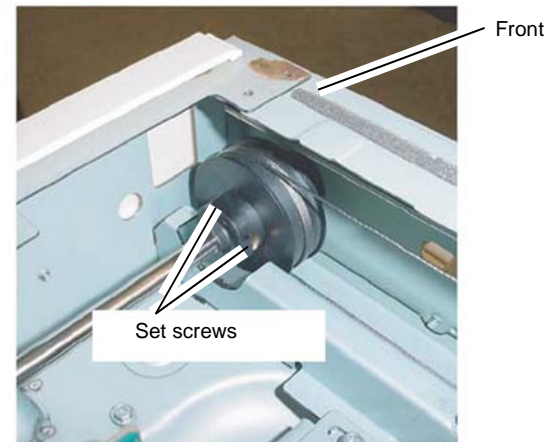

Figure 2 Front set screws
4. Check that the pulley at the front side is firmly secured. If the pulley is loose, tighten both set screws, Figure 2.